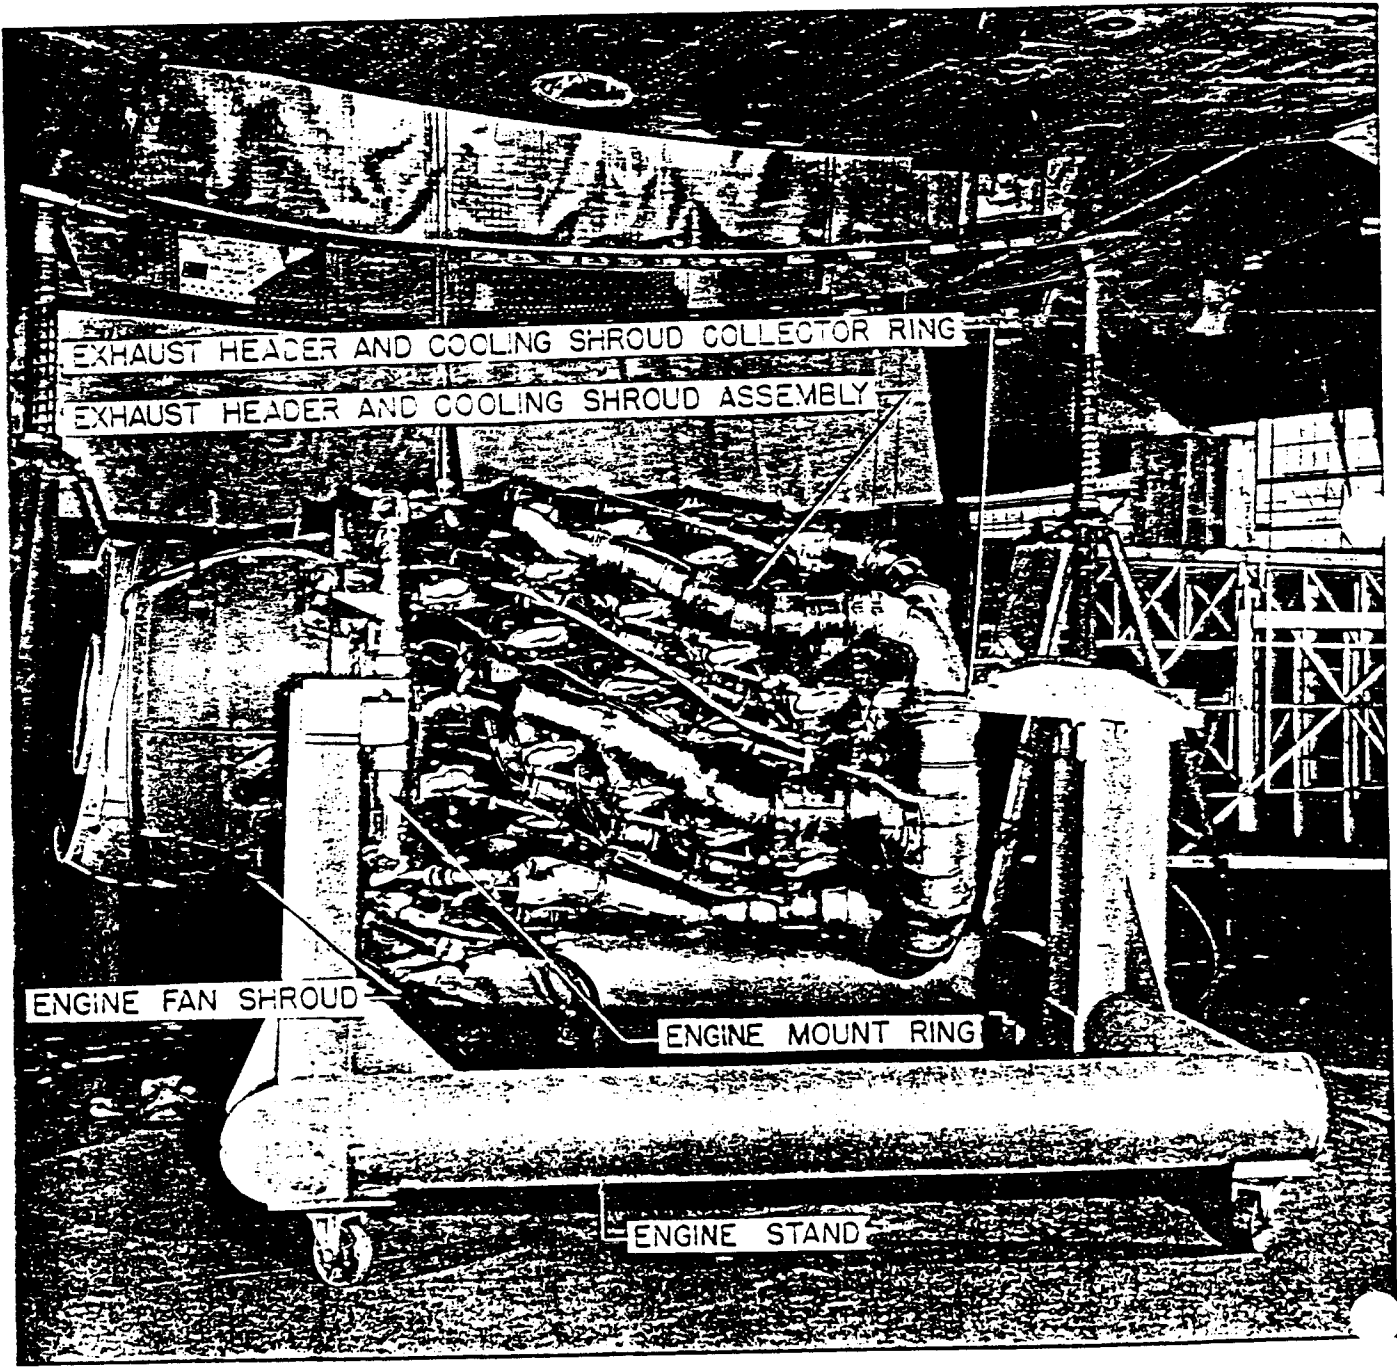

Figure 5. Engine Assembly - Left Side
7. ENGINES AND ACCESSORIES. (See figures 5 thru 17 inclusive.)